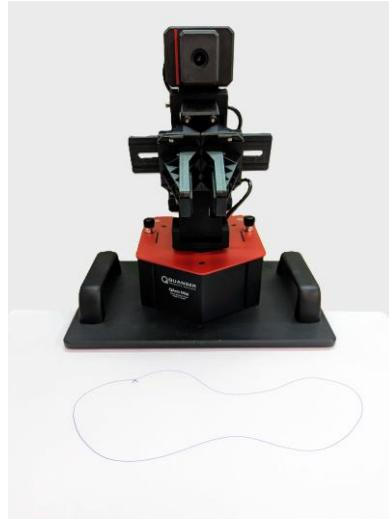

Figure 3. Closed Loop Trajectory
4. Place the paper at the base of the QArm Mini as shown below in Figure 3.